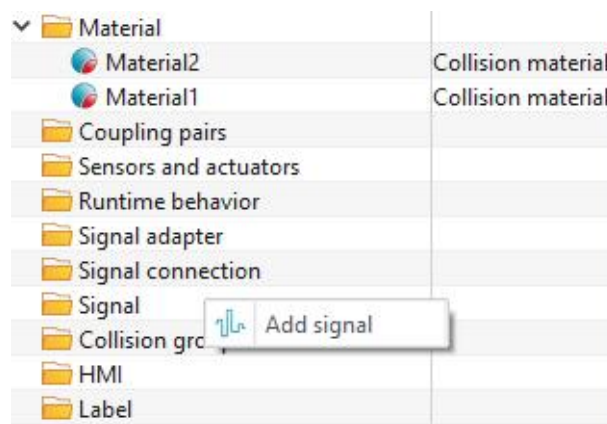

Figure 13-22: Add signal
- Open the "Signal" window and select "Add Signal".(Figure 13-22)